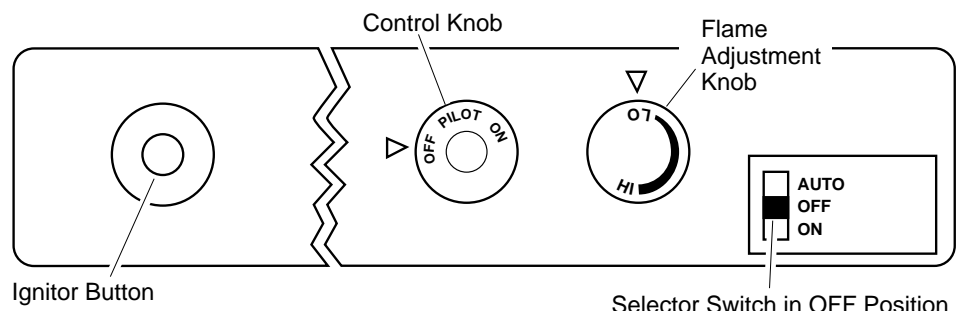

Figure 21 - Control Knob and Ignitor Button Location
4. Press in and turn control knob clockwise  to the OFF position (see Figure 21).
5. Wait five (5) minutes to clear out any gas. Then smell for gas, including near the floor. If you smell gas, **STOP!** Follow "B" in the safety information in column 1. If you don't smell gas, go to the next step.
6. Press in and turn control knob counterclockwise  to the PILOT position. Press in control knob for five (5) seconds (see Figure 21).